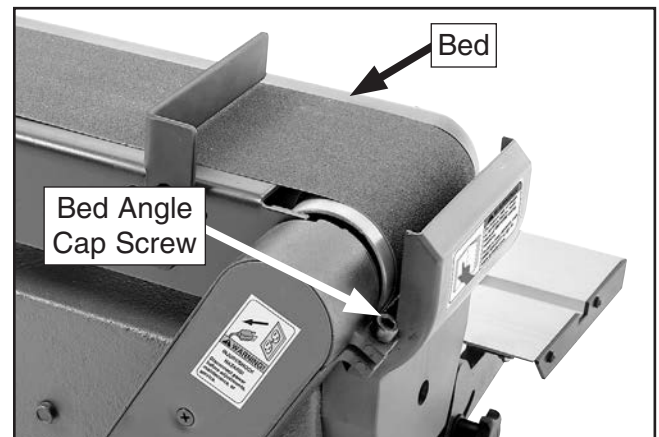

Figure 18. Bed angle adjustment.
2. Loosen bed angle cap screw shown in **Figure 18**.